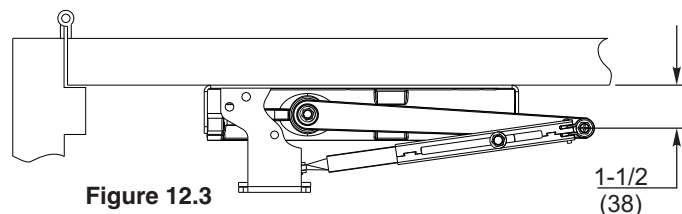

Figure 12.3
- To increase the power of the closer, re-adjust the arm elbow pivot point nearer the door face (Figure 12.3).